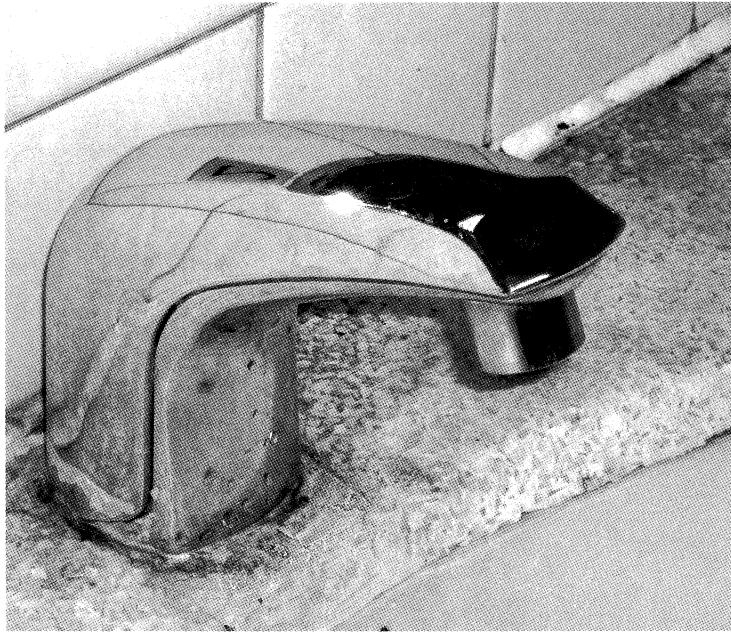

Figure 15(a)
15. (a) Figure 15(a) shows a water tap with an infra-red sensor.